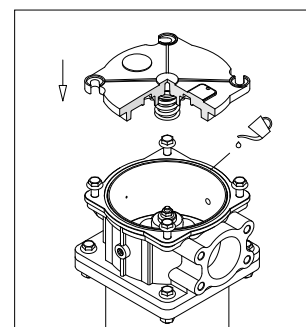

fig. 11
- (Fig.11) Lubricate the head O-ring, then mount the cover by fitting the spring onto the spigot of the insert. The plate must be oriented on the same side as the port "IN".